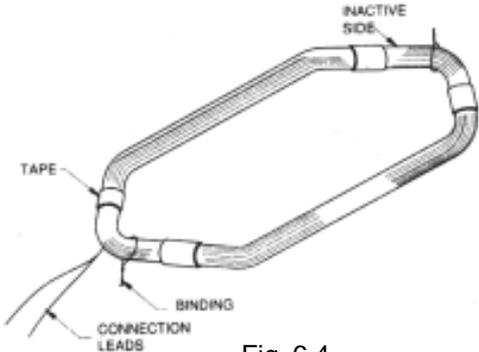

Fig. 6.4
**Formed coil winding:** For this method, wooden formers are made to the dimensions of the armature coils, similar to those of the field coils in section 3.4. The total number of coils required for the armature are wound and kept ready. The inactive side of the coils is bound with tape and tied with cotton strings as shown in Fig. 6.4.